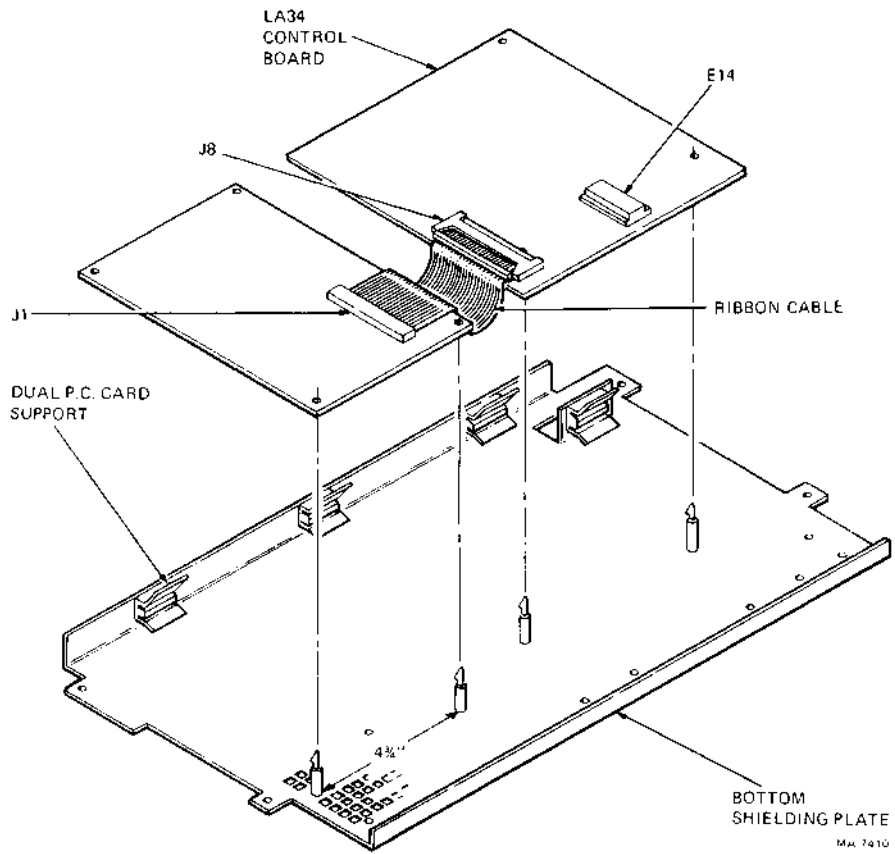

Figure 3-7 LA34-XL/XM Option Board Installation
- a. Secure the left standoff to the shielding plate grid (Figure 3-7) using the 6-32 screw. Use a pair of pliers (or equivalent) to hold the standoff while installing the screw. Do not tighten.
- b. Locate the right standoff a distance of approximately 4-3/4 inches to the right of the left standoff (Figure 3-7). Secure the standoff to the grid but do not tighten.
13. Slide the rear edge of the extended logic board into the upper slot of the dual PC card support (Figure 3-7). Align the two mounting holes in the board with the standoffs and press the board onto the standoffs.
15. Connect the ribbon cable from J1 on the extended logic board to J8 on the control board. Be sure that the ribbon cable is positioned as shown in Figure 3-7.
- a. Remove the ROM chip at location E14 on the control board (Figure 3-7). Insert tip of small flat blade screwdriver between chip and receptacle. Turn tool slightly at each end until pins are free. Do not use rocking motion while removing chip.